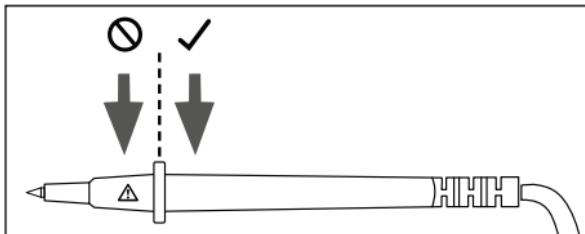

Fig. 3
- Only hold the test probes **⑥** in the grip area provided (see Fig. 3). The area with the warning sign **⚠** must not be touched, otherwise there is a danger of electric shock when measuring!